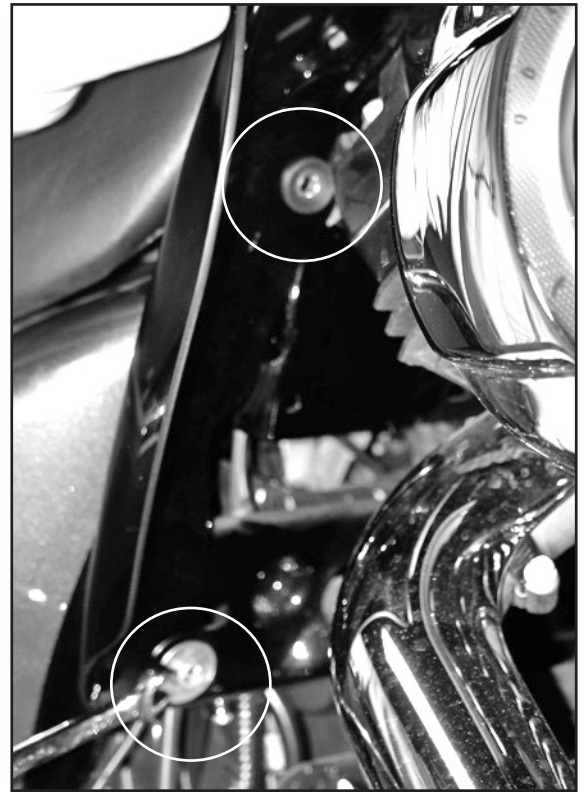

Figure 4
5. Install Shield at original mount points using original bolts and washers. **(12mm Box Wrench) Figure 4**